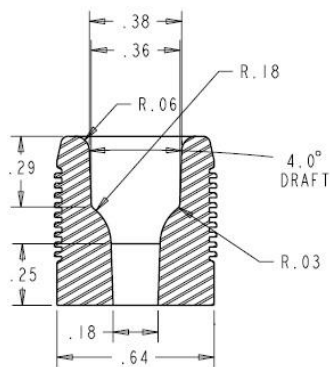

Figure 12 – HDPE Connectors for
5.2. Infill aluminum balusters are inserted onto 0.66 inch diameter HDPE plugs for the *Ultra Advantage*, *DekPro Prestige*, and *Coastal Aluminum* railing systems. See Figure 12. For the *Ultra Max* and *Ultra Deck-Over* railing systems, the balusters are installed onto a 1-1/8 inch wide by 3/4 inch high HDPE strip inserted into the top and bottom routed rails. See Figures 5.